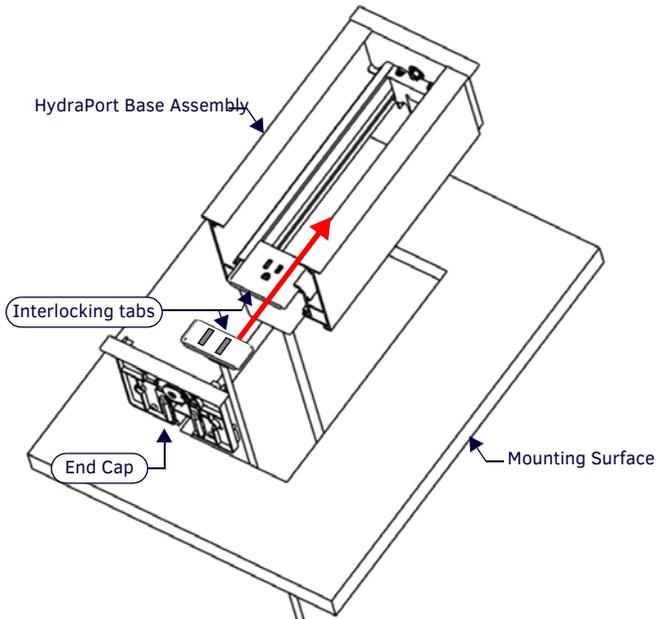

FIG. 5 INSTALLING THE HPX-N102-USB-PC MODULE
1. Orient the module relative to the HydraPort base assembly so that the Module's faceplate is facing up, towards the mounting surface (FIG. 5).